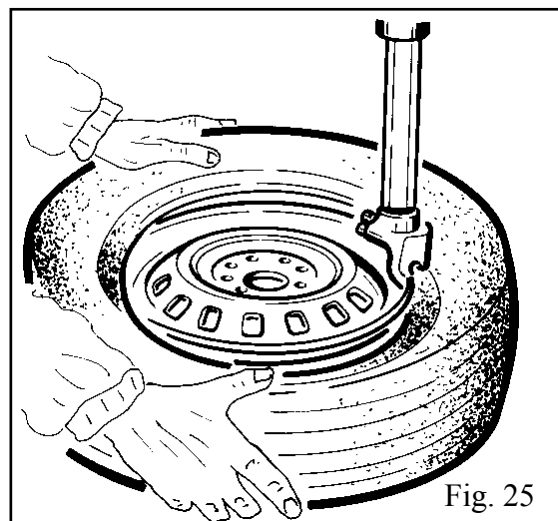

Fig. 25
Keeping the tyre bead pressed down into the wheel rim channel with your hands, press down on the pedal (Z) to rotate the turntable clockwise. Continue until you have covered the entire circumference of the wheel rim (Fig. 25).